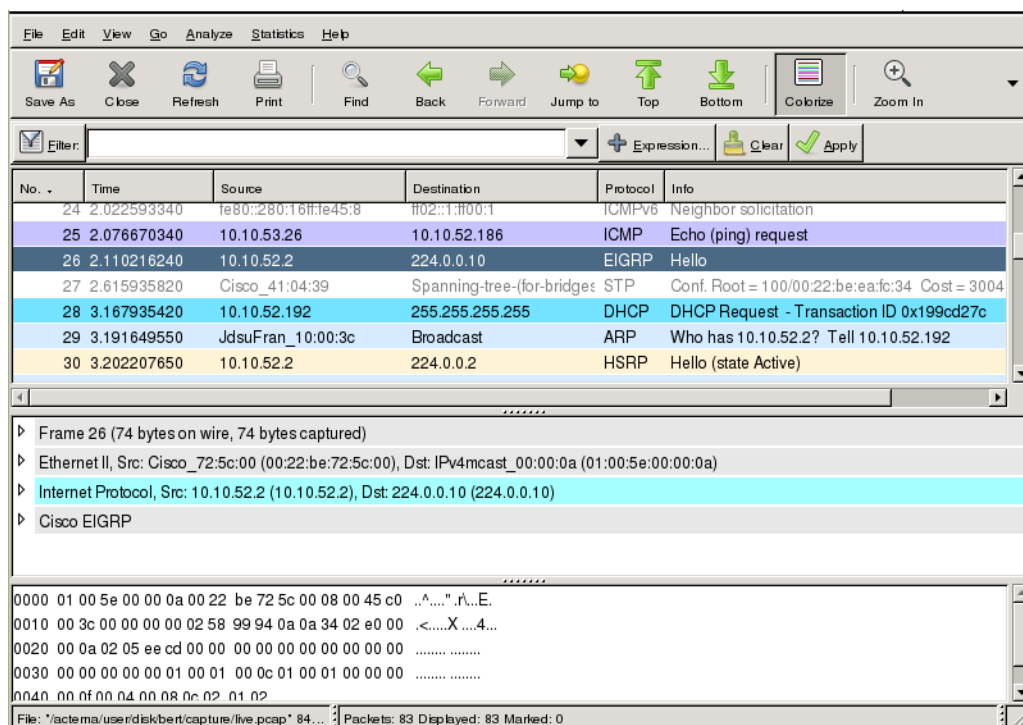

Figure 20 Sample Wireshark® screen
- 3 After the packets are loaded, a screen similar to the one in Figure 20 appears.